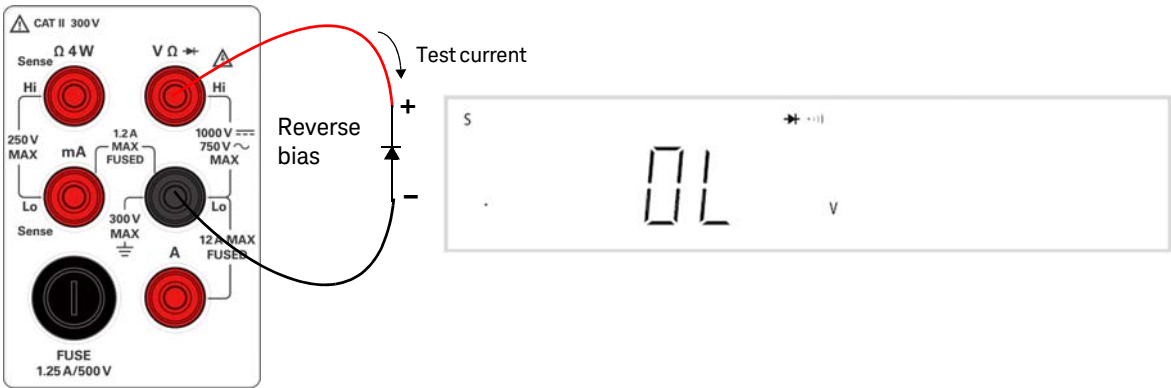

Figure 1-18 Reverse-biased diode/continuity test terminal connection and display
- 5 Reverse the probes and measure the voltage across the diode again as shown in Figure 1-18. Assess the diode according to the following guidelines: